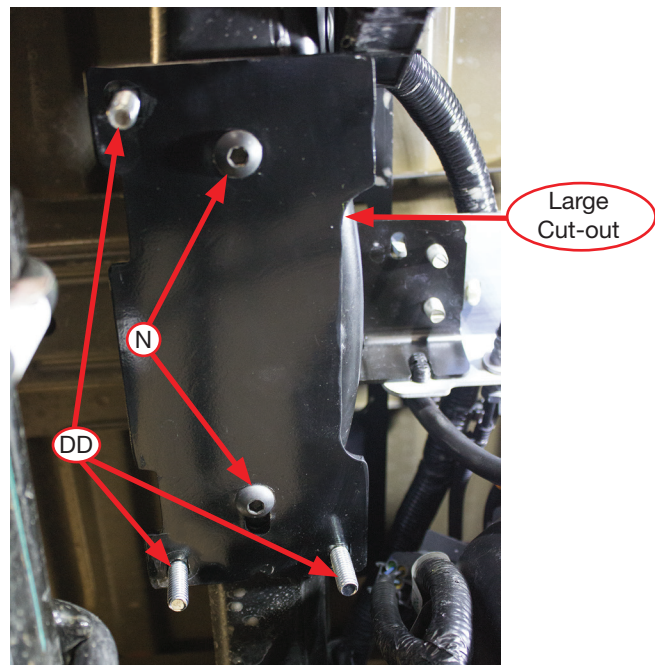

Fig. 6
4. Insert the 3/8"-16 x 1" carriage bolts (DD) into the upper frame bracket (D). Install the upper frame bracket onto the frame using the M10-1.5 x 35mm button-head cap screws (N) so that the large cut-out on the side of the bracket is inboard of the frame rail and the slotted hole in the center is forward (Fig. 6). Torque hardware to 38 lb.-ft. (52Nm).